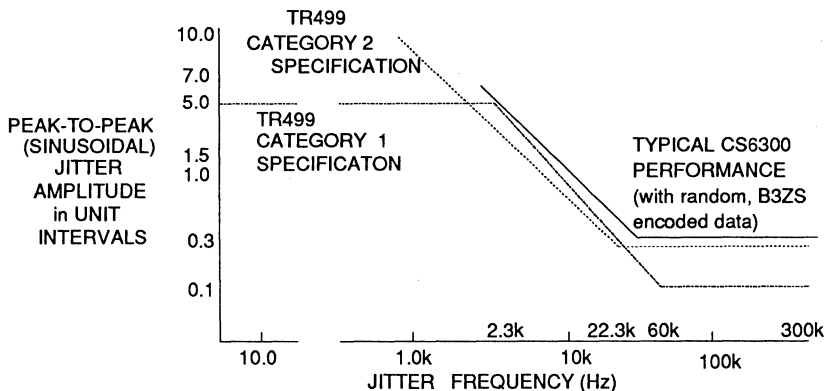

Figure 1. Typical CS6300 Jitter Tolerance at 44.736 MHz
2. Typical performance is shown in Figures 1, 2 and 3.